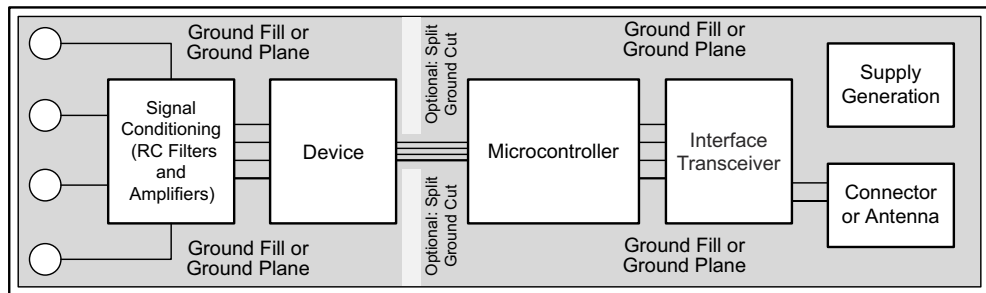

Figure 10-12. System Component Placement
Employ best design practices when laying out a printed circuit board (PCB) for both analog and digital components. For optimal performance, separate the analog components [such as ADCs, amplifiers, references, digital-to-analog converters (DACs), and analog MUXs] from digital components [such as microcontrollers, complex programmable logic devices (CPLDs), field-programmable gate arrays (FPGAs), radio frequency (RF) transceivers, universal serial bus (USB) transceivers, and switching regulators]. Figure 10-12 shows an example of good component placement. Although Figure 10-12 provides a good example of component placement, the best placement for each application is unique to the geometries, components, and PCB fabrication capabilities employed. That is, there is no single layout that is perfect for every design and careful consideration must always be used when designing with any analog component.